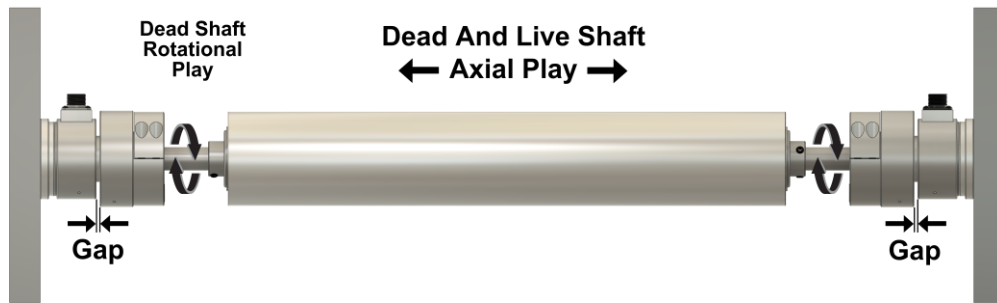

Figure 9 - AXIAL AND ROTATIONAL PLAY
For any tension transducer to operate properly, there must be some axial (along the idler shaft) movement capability to allow for shaft deflection and length variations caused by temperature fluctuations. The Model C transducer is designed with approximately 0.040 inch (1.0 mm) of axial compensation per transducer with a maximum of 0.080 inch (1.5 mm) per pair. To preserve this capability, follow the instructions below. A normal installation will have about 0.040 inch (1.0 mm) of axial movement. The D version coupling should also have a small amount of rotational free play (see Figure 9).
If shaft length is correct and installation has been done correctly, you will be able to move the idler roll shaft axially at least 0.040 inch (1.0 mm). **The axial movement is essential to the proper operation of the transducers, verify the axial movement now.** Use a feeler gage placed in the gap between the shaft coupling and beam housing to measure the movement (see Figure 9). On PB style mounting there is some adjustment to this movement with the clearance holes of the mounting bolts.
If no movement can be detected, loosen one shaft coupling and repeat the installation procedures, Section 2.3.3 (live or dead shaft). Also verify the rotational free play (D version, only) at this time (see Figure 9). Not much is needed, only enough to be able to feel. If none is detected, loosen one shaft clamp and turn both the idler shaft and the loose coupling in the SAME direction. Then re-tighten the clamp.
6. CHECK THE GAP FOR BEARING AXIS ALIGNMENT (see Figure 9)